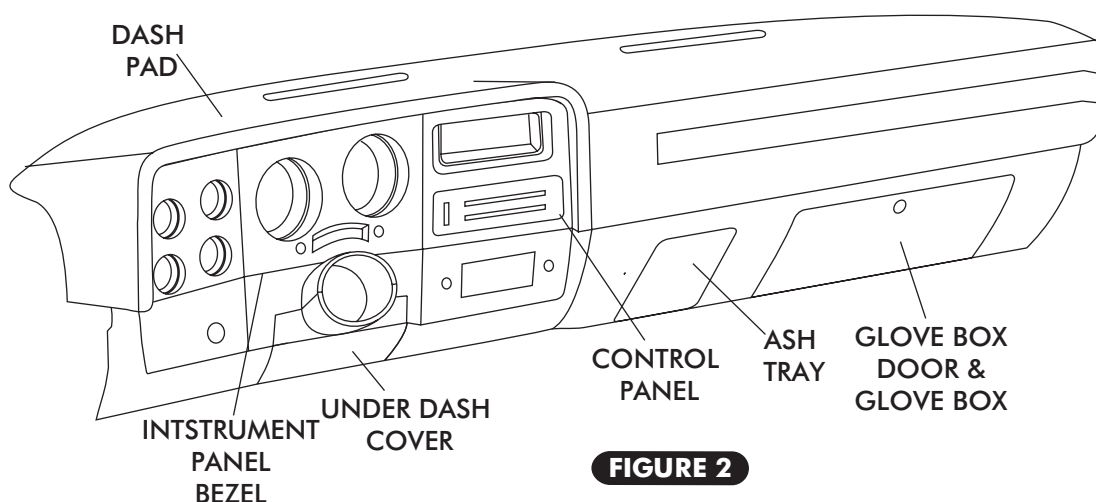

FIGURE 2
- ☐ GLOVE BOX DOOR AND GLOVE BOX ASSEMBLY (RETAIN) (SEE FIGURE 2 BELOW).
- ☐ UNDER DASH STEERING COLUMN COVER (RETAIN) (SEE FIGURE 2).
- ☐ DASH PAD (RETAIN) (SEE FIGURE 2).